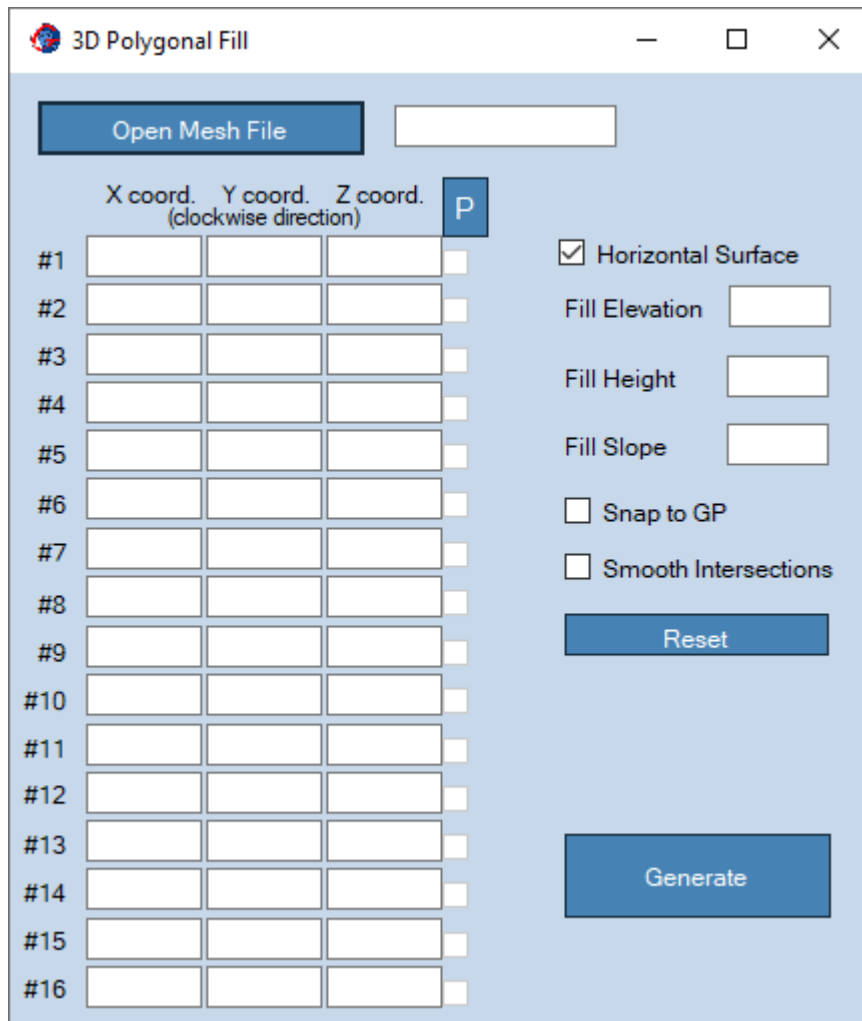

Figure 29: 3D Surfaces Menu – Polygonal Fill.
- **Snap to GP**: This option is useful when coordinates (X,Y) are selected using the mouse. Given the unlikeliness of exactly clicking over a gridpoint (GP) coordinate, activating this option will internally correct the coordinate of the selected point to the closest GP coordinates. This option helps to create straight edges of the landform perimeter, aligned with the mesh grid.
- **Meshing Menu, Polygonal Fill:** This option (shown in Figure 29) defines a Polygonal Fill landform over any given surface.